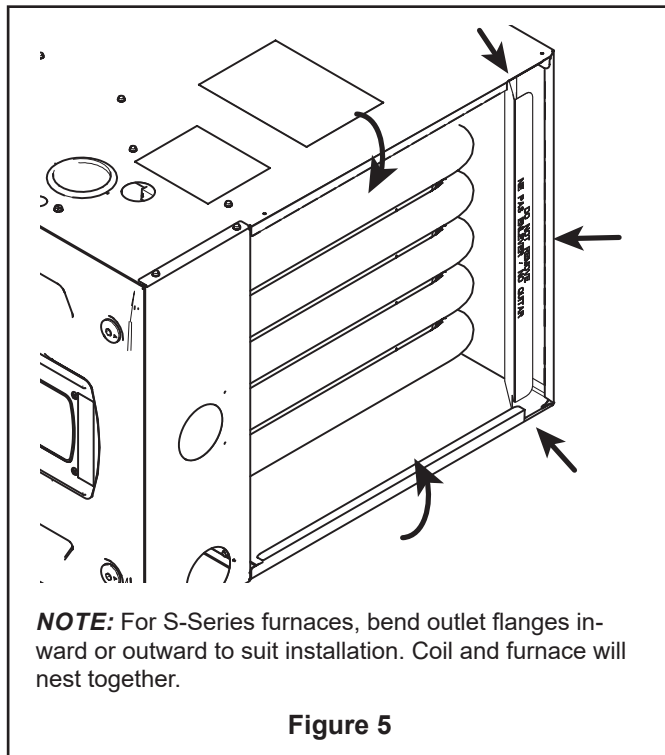
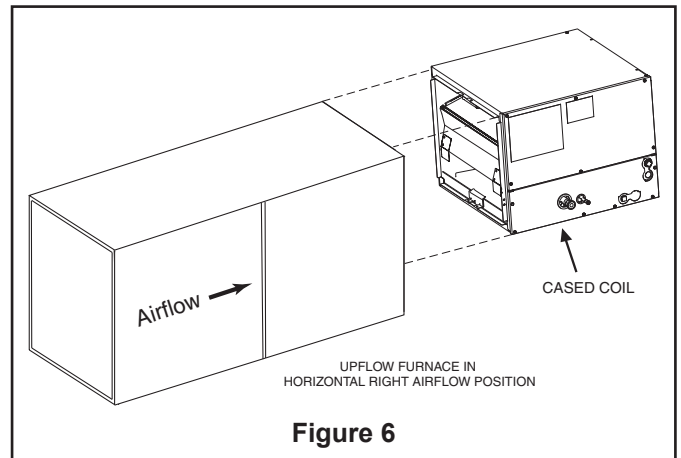
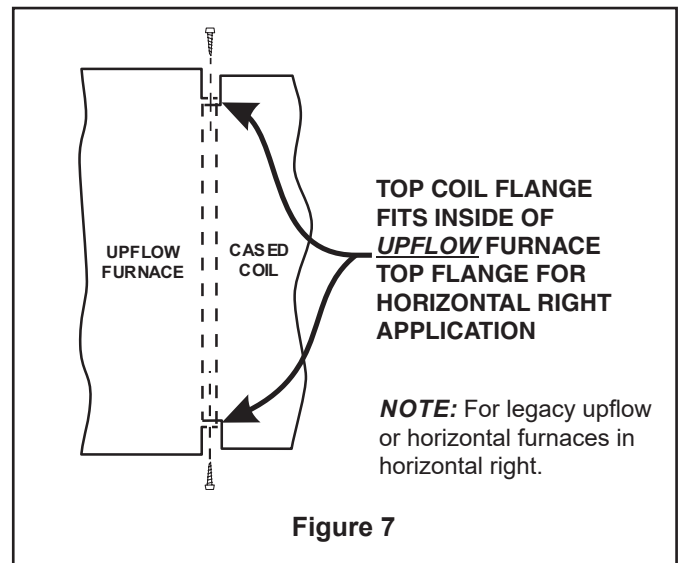
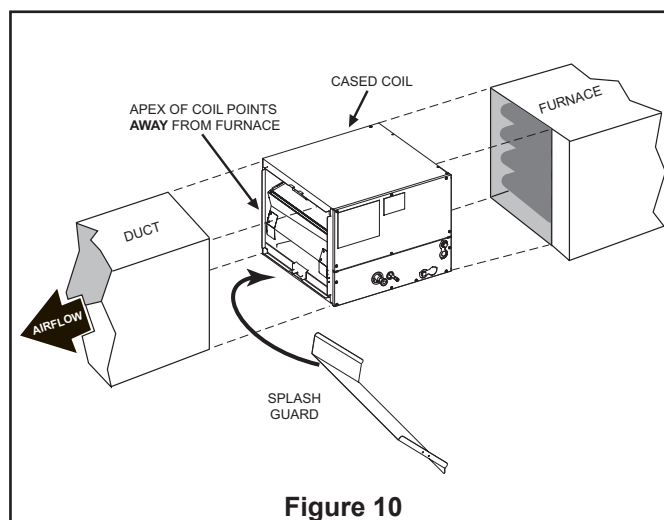

Figure 5
Figure 6
Figure 7
Figure 10
When installing onto an S-Series furnaces in horizontal right or downflow configuration the flanges will be bent inward for a flush fit. See Figure 5.
The 4TXC cased coil must be placed downstream of the furnace. See Figure 6 for proper orientation.
1. Attach the coil and furnace in the orientation shown in Figure 6. For S-Series furnaces, bend flanges to accommodate installation as shown in Figure 5. For legacy upflow or horizontal furnaces, attach as shown in Figure 7.
2. Attach the coil and furnace in the orientation shown in Figure 10. For S-Series furnaces, bend flanges to accommodate installation as shown in Figure 5.